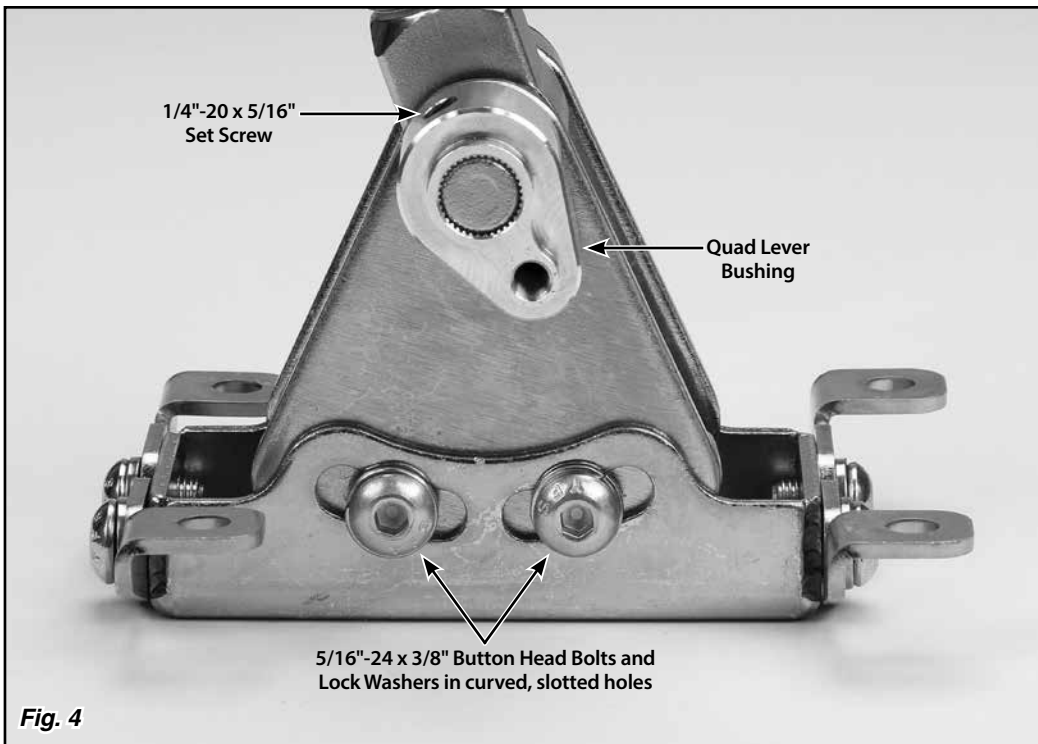

Fig. 4
Step 6: Make sure the two 5/16"-24 x 3/8" button head bolts and lock washers that are in the curved, slotted holes in the driver side of the floor mount mounting bracket are tight using a 3/16" Allen wrench. Place the Shifter in the desired location on the vehicle's floor. Make sure the shifter lever will not interfere with the dash when in Park, or with the seat when in low gear. The shifter assembly may be tilted forward or backward if needed by loosening the two 5/16"-24 x 3/8" button head bolts and lock washers that are in the curved, slotted holes in the driver side of the floor mount mounting bracket. Retighten the button head bolts and lock washers in the curved, slotted holes once you have the shifter assembly at the angle you want. **Fig. 4**